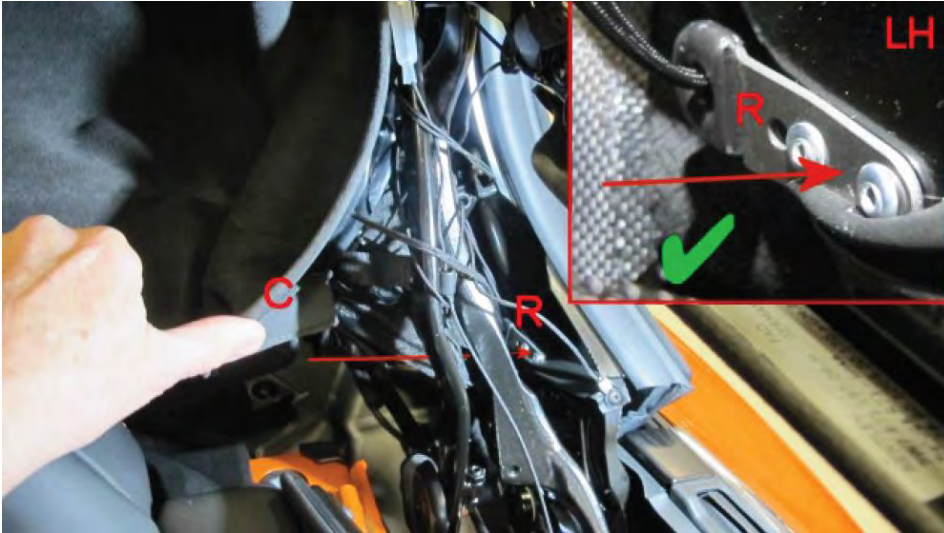

Figure 6
Two rivets secure the metal guide (R) to hood frame in C post area. Figure 6 identifies the location as viewed from inside the vehicle look back towards the left hand rear seat area